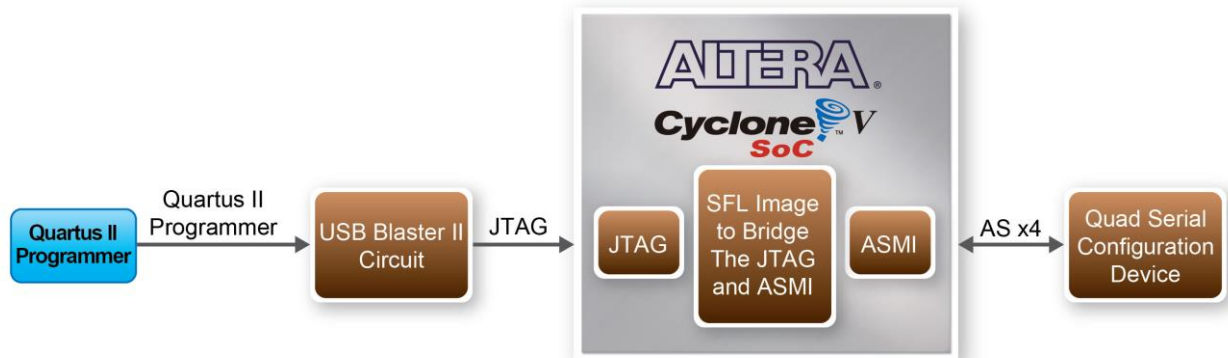

Figure 3-8 Programming a Quad Serial Configuration Device with the SFL Solution
FPGA-based SFL is a soft intellectual property (IP) core within the FPGA that bridges the JTAG and flash interfaces. The SFL mega-function is available from Quartus II software. **Figure 3-8** shows the programming method when adopting a SFL solution